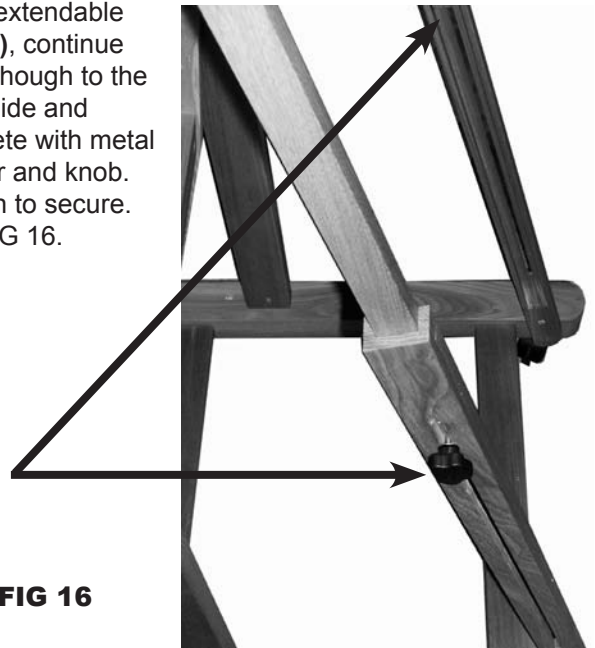

FIG 16
STEP 16. Attach 6 X 40mm Bolts, knobs & washers (H4) to Extendable legs (10 & 11). These adjustment knobs are used along with the others to lower the easel into a horizontal position. Insert the bolt through the inside edge of the extendable leg (11), continue going through to the other side and complete with metal washer and knob. Tighten to secure. See FIG 16.